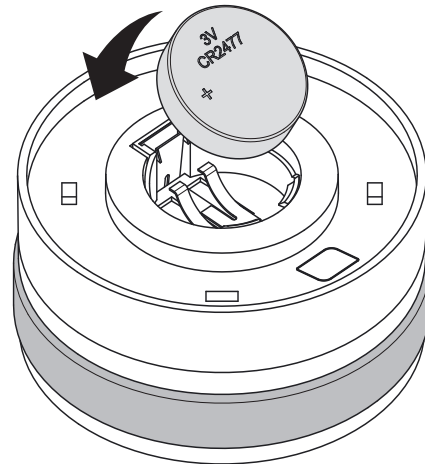

Figure 22.3
3. The appliance receptacle is located on its lower, back right hand corner. Install the cord to the appliance reception and to the wall (Figure 22.3).